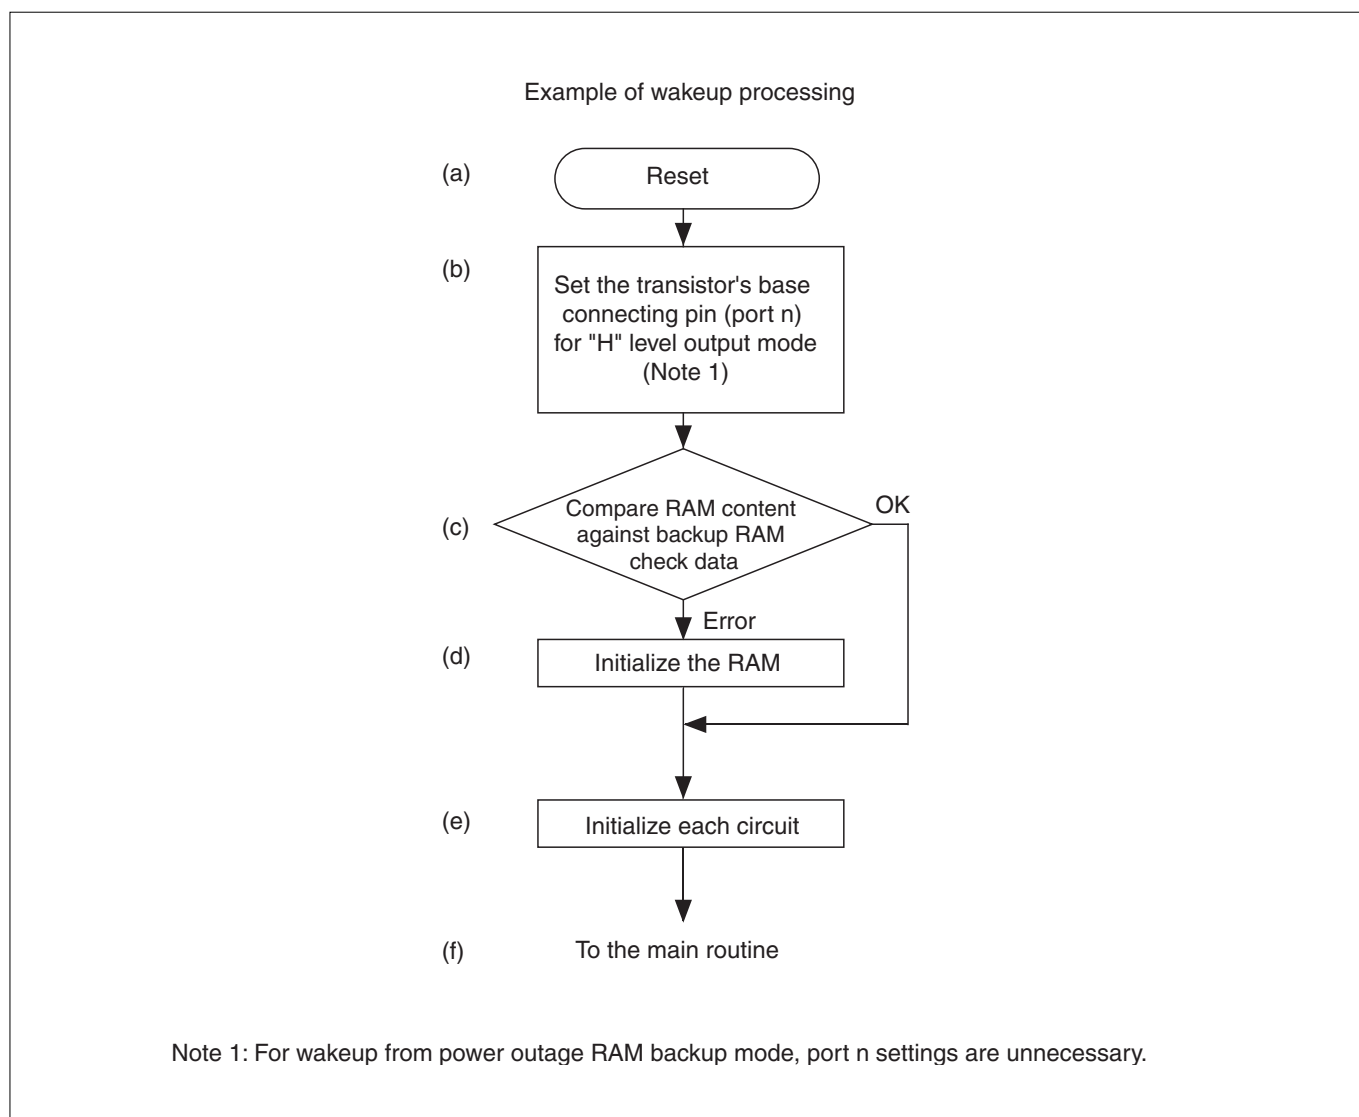

Figure 17.4.1 Wakeup Processing
The processing to place the M32R/ECU out of RAM backup mode and return it to normal operation mode is referred to as “wakeup” processing. Figure 17.4.1 shows an example of wakeup processing.
- (1) Reset the microcomputer ((a) in Figure 17.4.1).
- (2) Set port n for output mode and output a "H" from the port ((b) in Figure 17.4.1) (Note 1)
- (3) Compare the RAM content against the RAM check data created before entering RAM backup mode ((c) in Figure 17.4.1).
- (4) If the comparison in (3) did not match, initialize the RAM ((d) in Figure 17.4.1).
- (5) Initialize each internal circuit ((e) in Figure 17.4.1) before returning to the main routine ((f) in Figure 17.4.1).